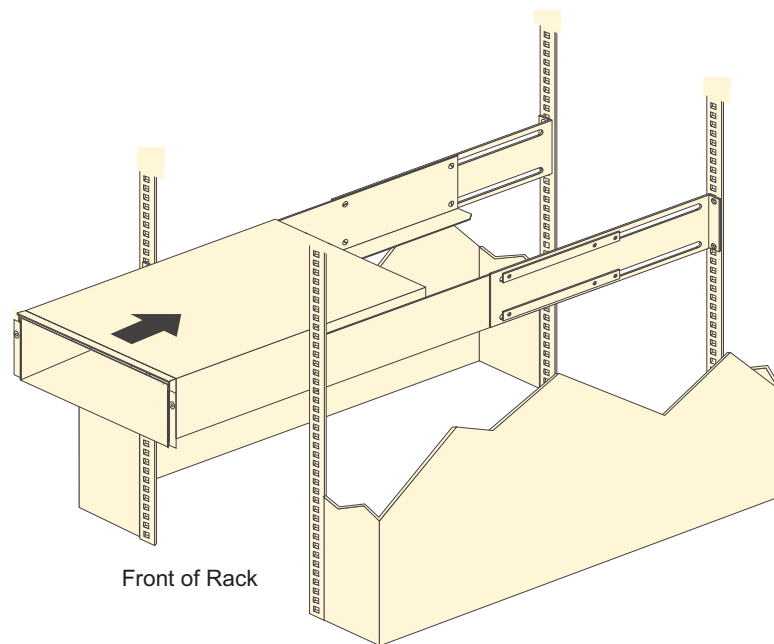

Figure 12. Installing the EXP5000
- b. With help from another person, place the back of the storage expansion enclosure on the support rails, and then slide the unit into the rack as shown in Figure 12.